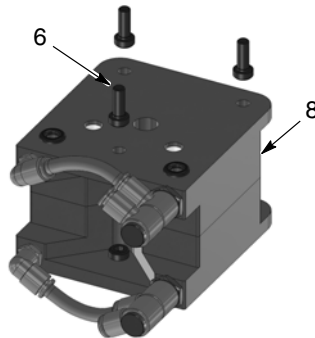

Figure 7-7 Separating Middle Siphon Blocks
- See Figure 7-7. Remove three cap screws (6) from each middle siphon block (8) to separate the two blocks from each other.
5. See Figure 7-7. Using a 4-mm Allen wrench, insert three cap screws (6) into the tapped side of the middle block (8) to secure them together.